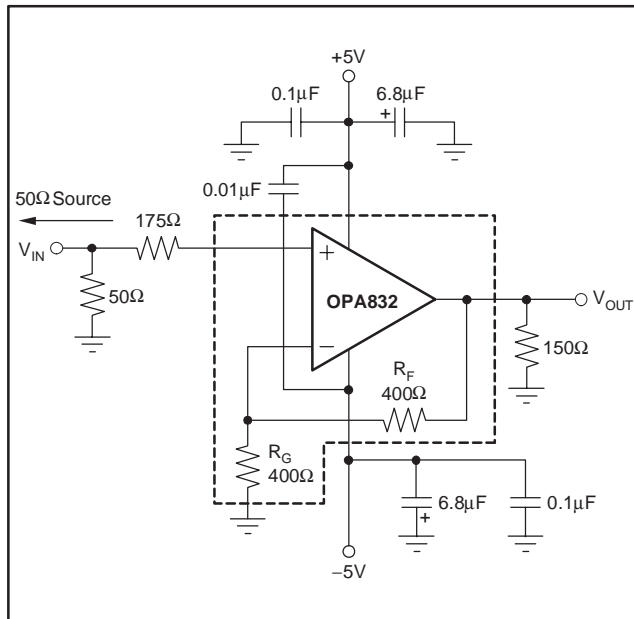

Figure 3. DC-Coupled,  $G = +2$ , Bipolar Supply Specification and Test Circuit
**TYPICAL CHARACTERISTICS:  $V_S = \pm 5V$** At  $T_A = 25^\circ\text{C}$ ,  $G = +2$ , and  $R_L = 150\Omega$  to GND, unless otherwise noted (see Figure 3).
At  $T_A = 25^\circ C$ ,  $G = +2$ , and  $R_L = 150\Omega$  to GND, unless otherwise noted (see Figure 3).
Figure 3 shows the DC-coupled, gain of +2, dual power-supply circuit configuration used as the basis of the  $\pm$ 5V Electrical Characteristics and Typical Characteristics. For test purposes, the input impedance is set to 50 $\Omega$  with a resistor to ground and the output impedance is set to 150 $\Omega$  with a series output resistor. Voltage swings reported in the specifications are taken directly at the input and output pins. For the circuit of Figure 3, the total effective load will be 150 $\Omega$  || 800 $\Omega$ . Two optional components are included in Figure 3. An additional resistor (175 $\Omega$ ) is included in series with the noninverting input. Combined with the 25 $\Omega$  DC source resistance looking back towards the signal generator, this gives an input bias current cancelling resistance that matches the 200 $\Omega$  source resistance seen at the inverting input (see the DC Accuracy and Offset Control section). In addition to the usual power-supply decoupling capacitors to ground, a 0.01 $\mu$ F capacitor is included between the two power-supply pins. In practical PC board layouts, this optional capacitor will typically improve the 2nd-harmonic distortion performance by 3dB to 6dB.
The OPA832 provides good distortion performance into a 150Ω load. Relative to alternative solutions, it provides exceptional performance into lighter loads and/or operating on a single +3.3V supply. Generally, until the fundamental signal reaches very high frequency or power levels, the 2nd-harmonic will dominate the distortion with a negligible 3rd-harmonic component. Focusing then on the 2nd-harmonic, increasing the load impedance improves distortion directly. Remember that the total load includes the feedback network; in the non-inverting configuration (see Figure 3) this is sum of  $R_F + R_G$ , while in the inverting configuration, only  $R_F$  needs to be included in parallel with the actual load.
The balanced input stage of a wideband voltage-feedback op amp allows good output DC accuracy in a wide variety of applications. The power-supply current trim for the OPA832 gives even tighter control than comparable products. Although the high-speed input stage does require relatively high input bias current (typically 5μA out of each input terminal), the close matching between them may be used to reduce the output DC error caused by this current. This is done by matching the DC source resistances appearing at the two inputs. Evaluating the configuration of Figure 3 (which has matched DC input resistances), using worst-case +25°C input offset voltage and current specifications, gives a worst-case output offset voltage equal to:
As a worst-case example, compute the maximum  $T_J$  using an OPA832 (SOT23-5 package) in the circuit of Figure 3 operating at the maximum specified ambient temperature of +85°C and driving a 150Ω load at mid-supply.